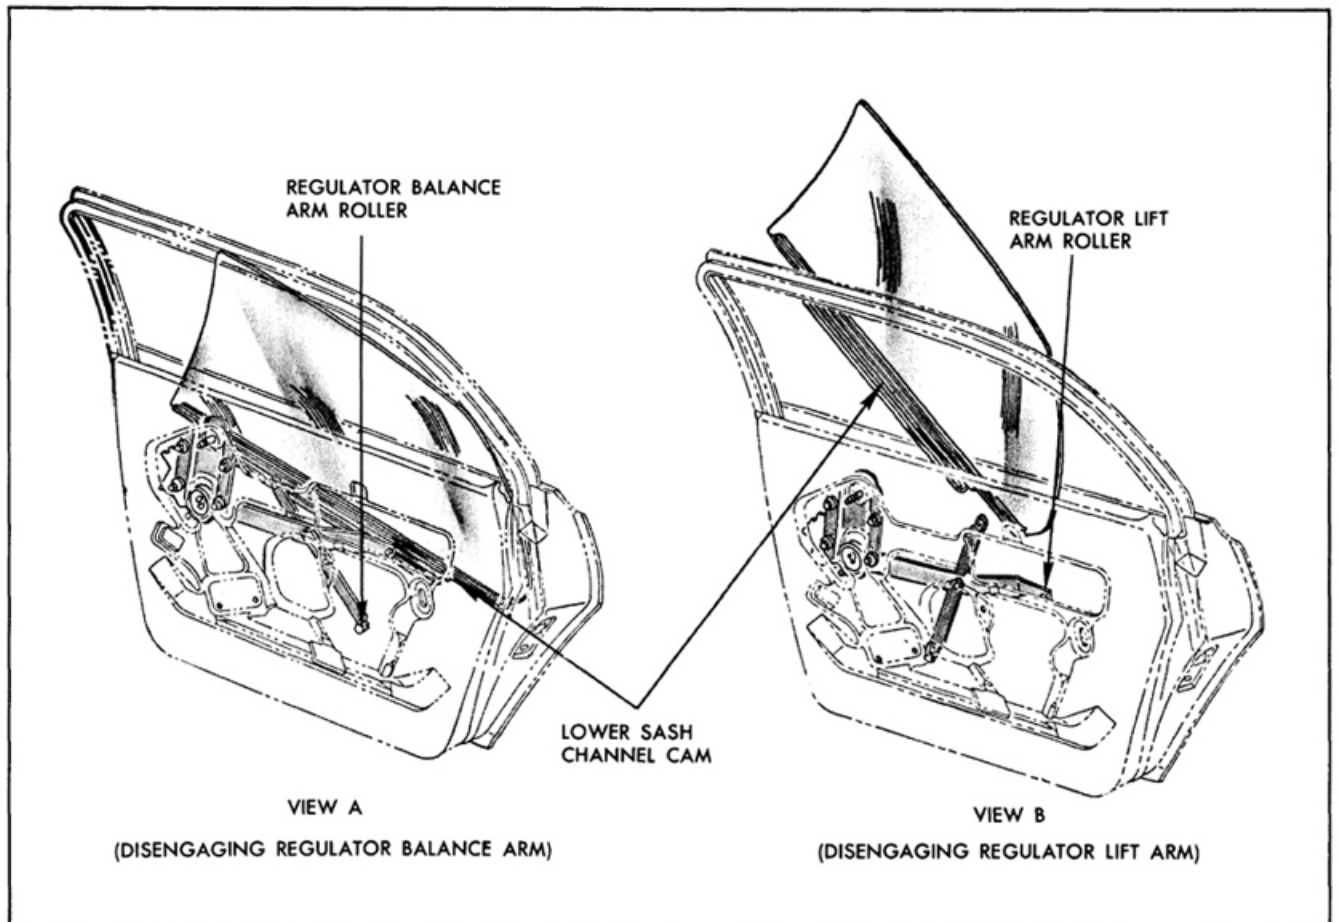

Fig. 16-354 69 Style - Rear Door Window Removal
4. Rotate glass upward and forward to disengage lower sash channel cam from regulator lift arm roller and remove door window outboard of door upper frame. (Fig. 16-354)